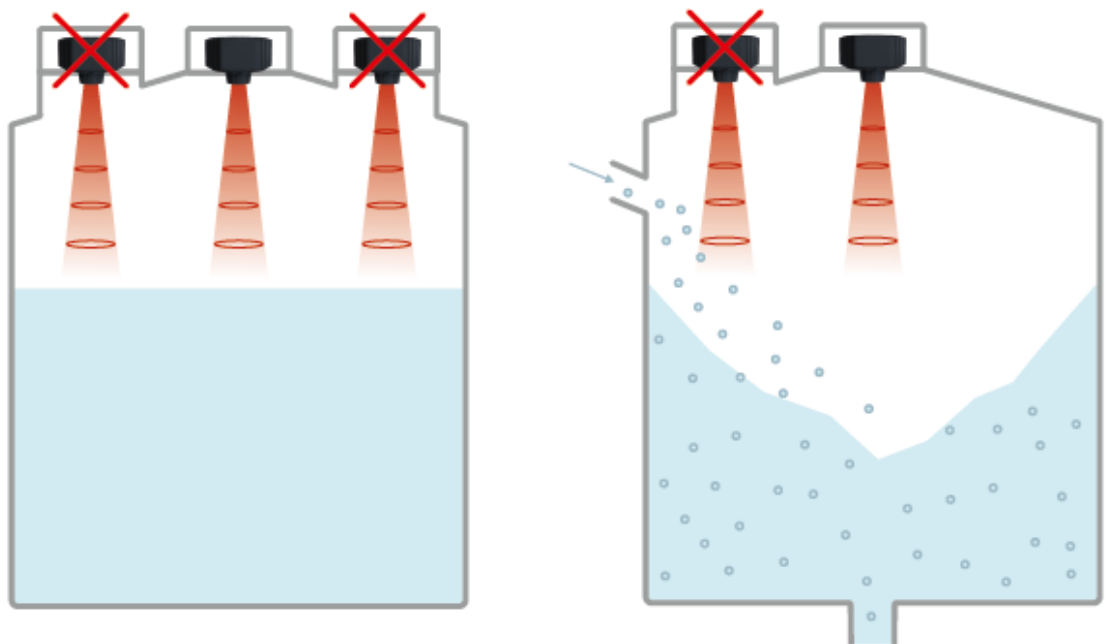

Fig. 6. Recommended place of installation
- When installing the sensor make sure that the flow of liquids or bulk materials during loading/unloading does NOT fall into the measurement zone of the sensor (Fig. 6).